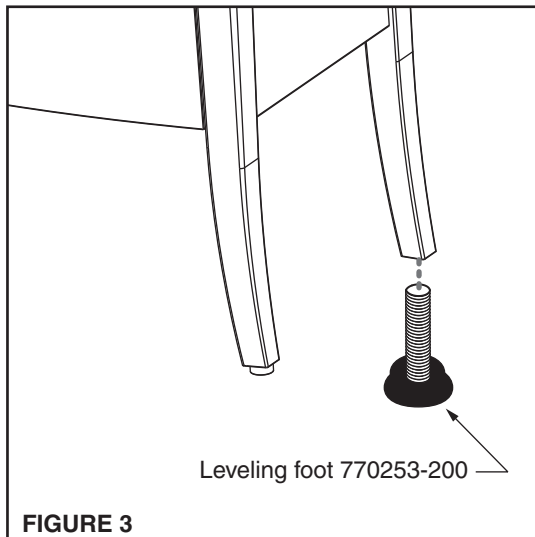

FIGURE 3
3. Level furniture by adjusting each of the four 770253-200 leveling feet (Figure 3). Four leveling feet are included with the furniture purchase.